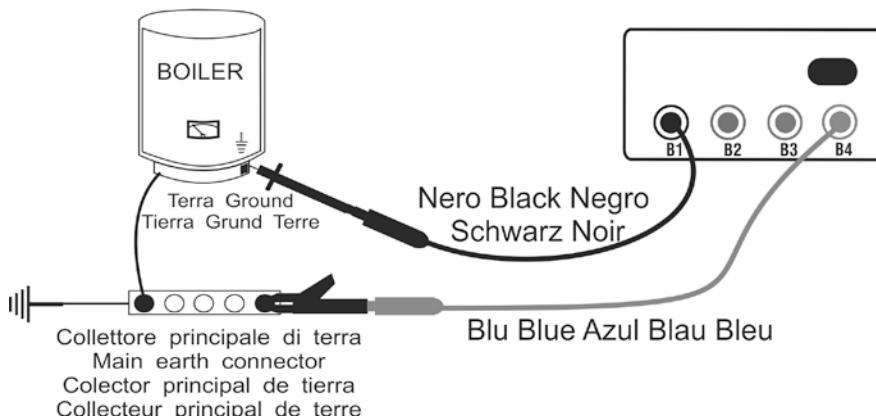

Fig. 4: Instrument connection for  $\text{LOW}\Omega$  test
6. Connect the instrument terminals to the ends of the conductor whose continuity you want to test (see Fig. 4)